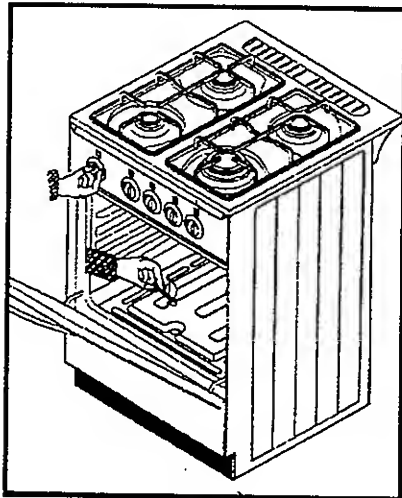

Figure 7
You should place a lighted match next to the entrance of the burner hole. Depress the oven burner knob and turn counter-clockwise. Keep the control knob depressed for 10 seconds after lighting. Check that the burner is lit (Figure 7). **Use extreme caution when lighting burners in this manner.**
- First, the surface burners must be installed correctly, as seen in Figure 7.